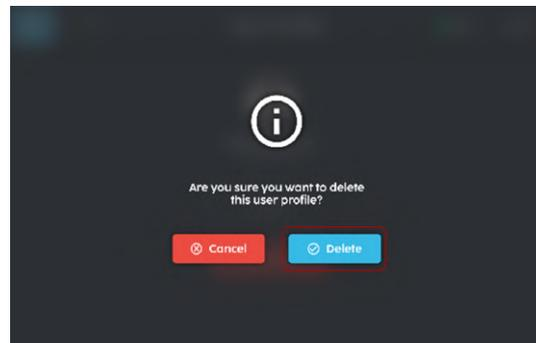

FIGURE 3-19
3. Select 'Delete' (**Fig. 3-19**).